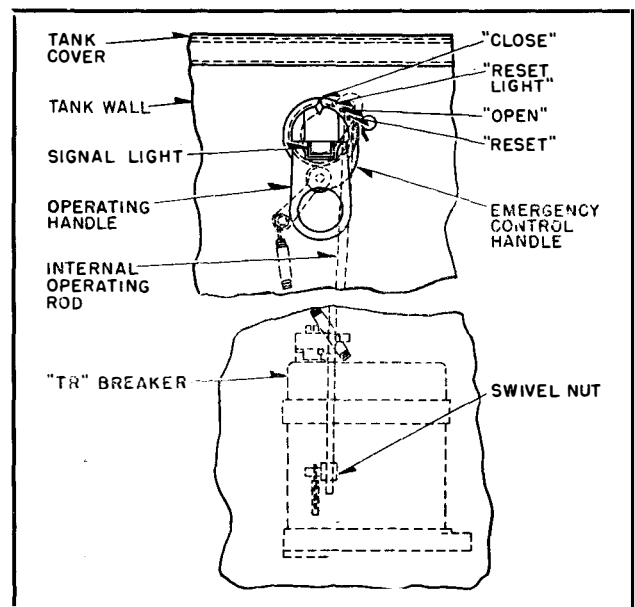

FIG. 10. "TR" Breaker Operating Mechanism.
**"TR" Breakers.** (See Fig. 10). With the vertical rod disconnected from the operating arm, set the breaker and the external handle in the fully-closed position. If the rod is provided with a turnbuckle, loosen the upper lock-nut. Adjust the length of the rod so that the upper end slips freely into the hole in the operating arm. If the lever projecting from the side of the breaker contains two holes, the rod should be inserted in the outer hole in both the lever and the operating arm. If the lever contains only one hole, the rod should be inserted in the inner hole in the operating arm. In either case, the rod should then be shortened by rotating the upper end two full turns, reinserted in the operating arm, and secured in place with a cotter pin.